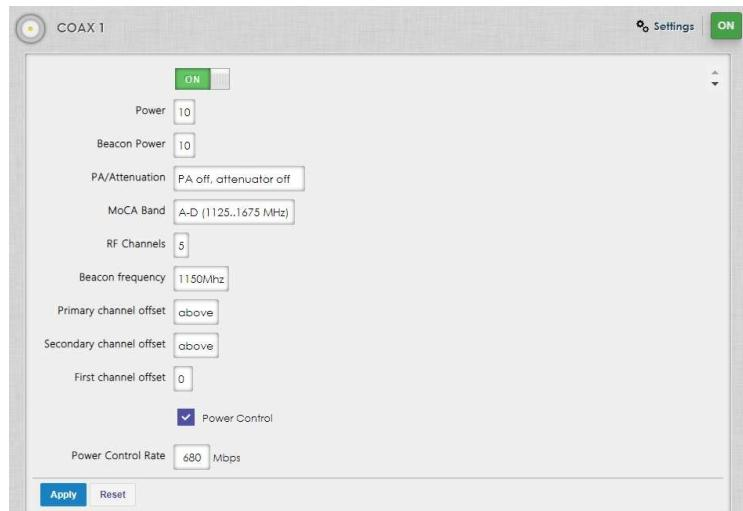

Figure 21 — The default settings for the Coax ports.
2. Click on one of the **Settings** to change the settings for the specific port. See **Figure 20** and **Table 7** for more details about the Trunk port and **Figure 21** and **Table 8** for more details about the coax ports.